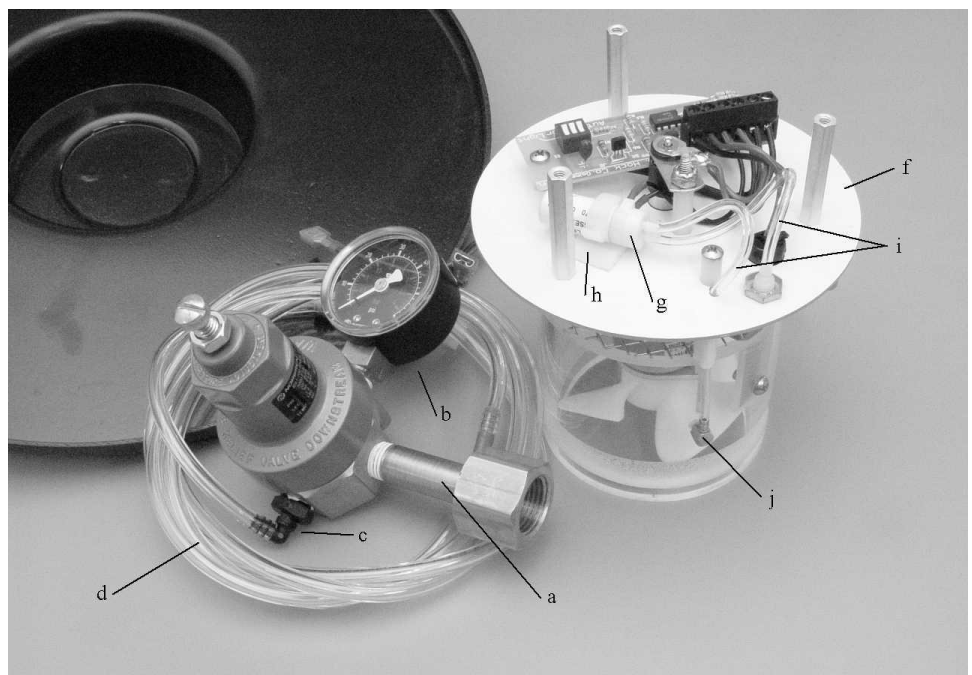

Figure 2. View of installed system with regulator.
1. Drill two holes in the white aluminum plate as shown in Figure 2. The hole at **A** is 1/4" in diameter, the hole at **B** is 0.129" in diameter (a #30 drill). Use figure to locate holes in their proper locations.
Figures 2 and 3 using the adhesive-backed attachment clip.